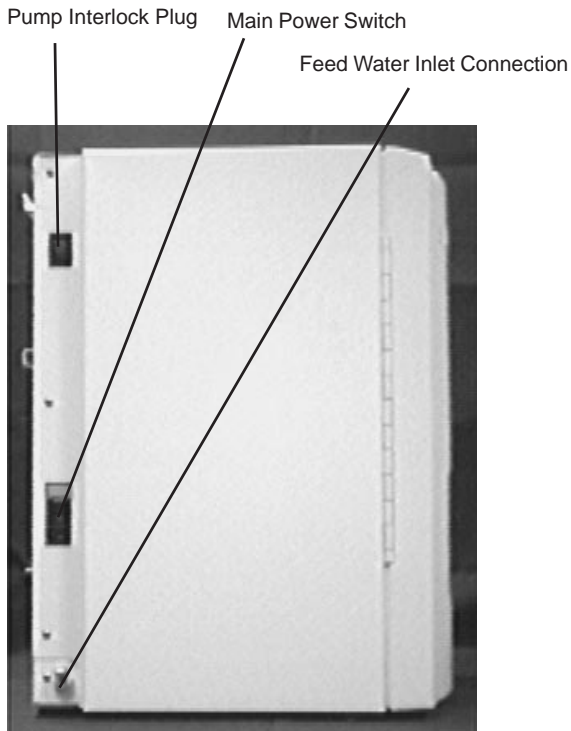

Figure 5 Feed Water Connection (Left Side with Front of Unit Facing You)
2. Attach the feed water line (from step 2 Feed Water Connection, see Figure 5) to the unit by snapping the quick disconnect coupling into the quick disconnect body in the lower left side of the unit.